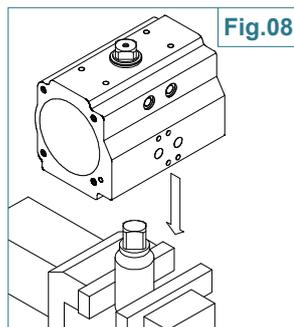

Fig.08
B.Pistons assembly (Part No.07), Fig.08,09,10 and 11:
- Install piston O-rings (13), the piston back (14) and piston head bearings (12).
- Grease the internal surface of the body (06) and the piston (07) rack teeth.
- Hold the body (06) in a horizontal position by inserting the top of the shaft into a vice or the bottom of the shaft connection into a male drive fitted in a vice as shown in Fig.08.